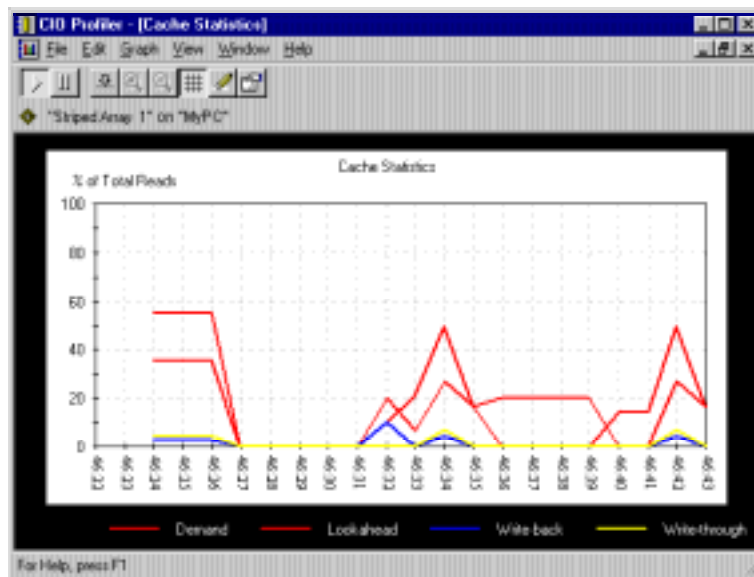

Figure 7-2. CI/O Profiler Window
- 2 When the Operations dialog box appears, click the  button. The CI/O Profiler window appears, as shown in Figure 7-2.
- 3 View the information on the graph. If you selected an array card, the graph shows information for all devices controlled by the array card. Figure 7-2 shows an area graph for a selected array. The graph displays the percentage of total Read cache hits compared to the total number of read commands.
- **Area:** (see Figure 7-2) Similar to a line graph, but with the area beneath the line filled in.
- **Object Info bar:** The Object Info bar, which appears below the toolbar (see Figure 7-2), lists information about the device that is being graphed.